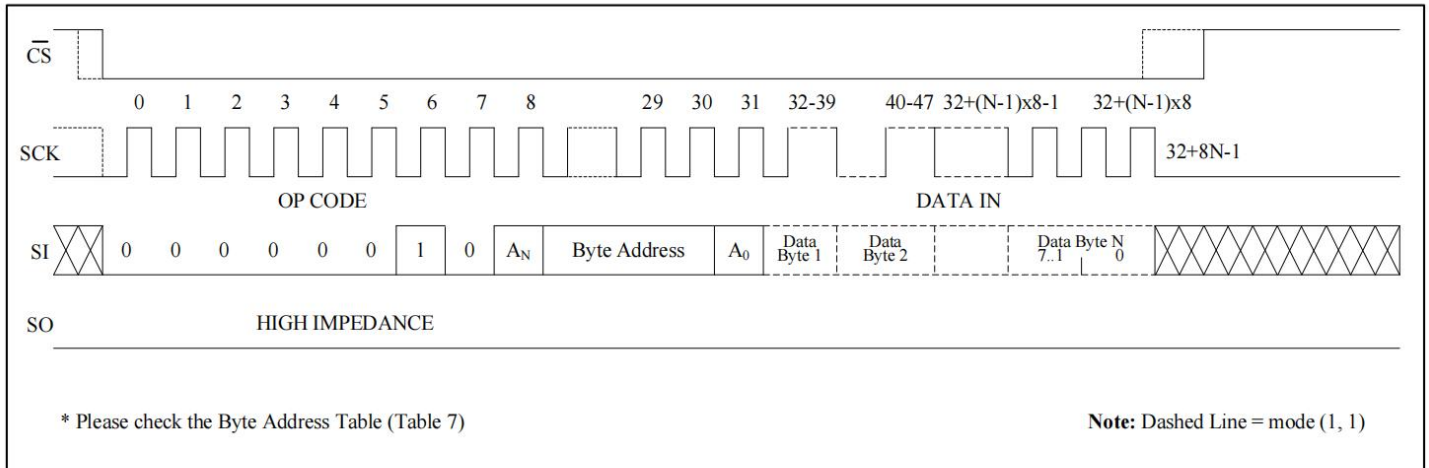

Figure 5
**Page Write:** After sending the first data byte to the 25M01, the host may continue sending data, up to a total of 256 bytes, according to timing shown in Figure 5. After each data byte, the lower order address bits are automatically incremented, while the higher order address bits (page address) remain unchanged. If during this process the end of page is exceeded, then loading will “roll over” to the first byte in the page, thus possibly overwriting previously loaded data. Following completion of the write cycle, the 25M01 is automatically returned to the write disable state.